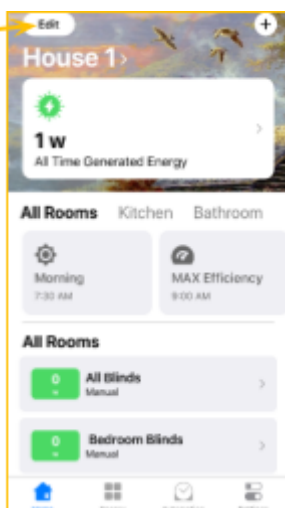

Figure 34
**10.9.1.** Click **Edit** tab in the top left corner to start (Fig. 34).